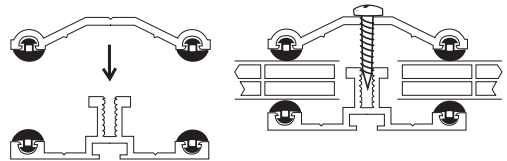

**Fig. 7**
**Step 9:** If butting a sheet up to a wall face, simply upturn the side trim profile (Fig. 7).